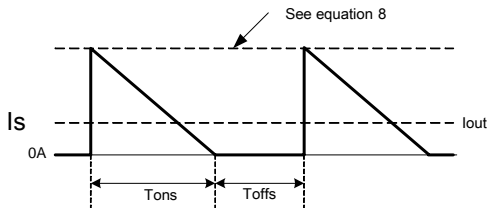

Figure 13. Secondary Current Waveform
The GA1706 is designed to work in constant-current (CC) mode. Figure 13 shows the secondary current waveforms.